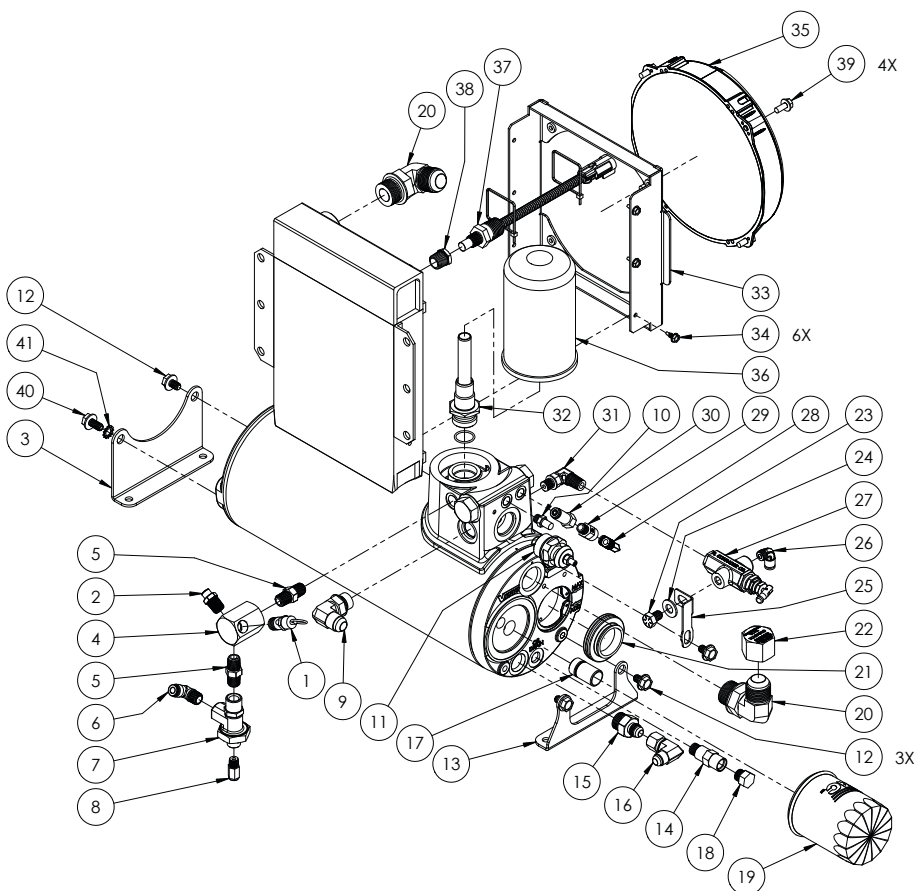

Figure 94 — WHASP Tank
4. WHASP Tank, 9240014 (Figure 94 on page 120)